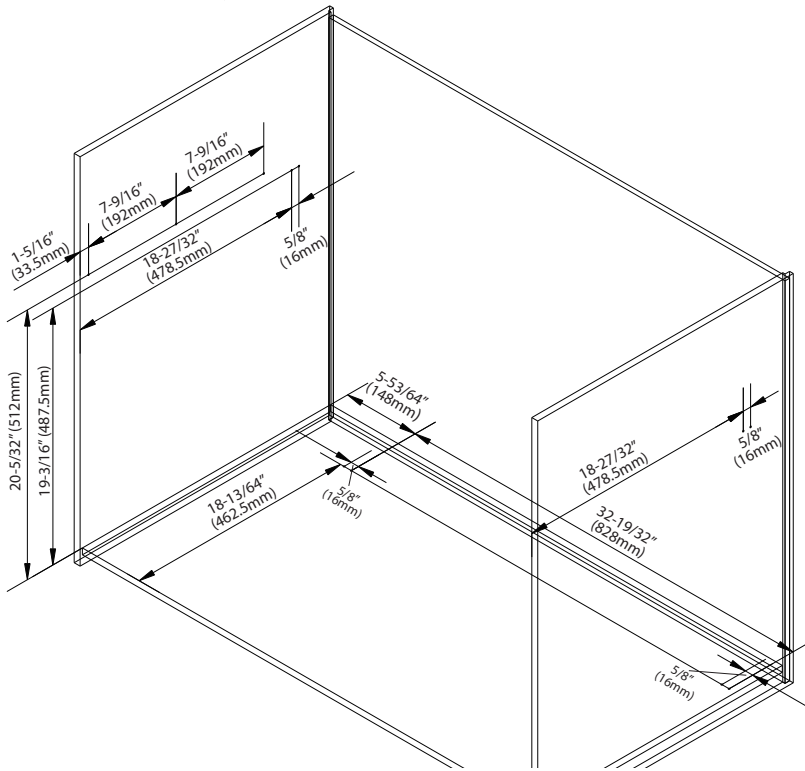

Figure 1
1) Refer to Figure 1 for measurements, depending on your cabinet construction, your dimensions may be different than the ones shown. The cabinet image in Figure 1 is a Frameless cabinet with an overlay door. Once all 11 location(s) have been marked, pre-drill using the 1/16" drill bit.
- Attach Inside Frame (A) to the cabinet floor and side walls using 8 of the 5/32X18MM Wood Screws (#5). Use your Level to ensure Inside Frame (A) is balanced. Tighten the 4 bolts on top of Inside Frame (A) to lock brackets to the cabinet sides.
- Attach Adjustable Side Bracket (K) to the cabinet wall using 3 of the 5/32X18MM Wood Screws (#5).